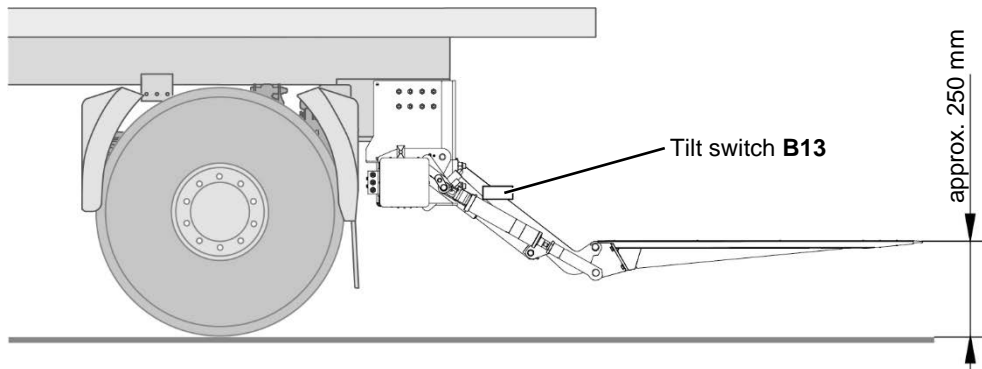

Figure 45: Tilt switch **B13** (1)
- Move the platform to the position horizontally approx. 250 mm above the ground as presented in Figure 45, page 67.